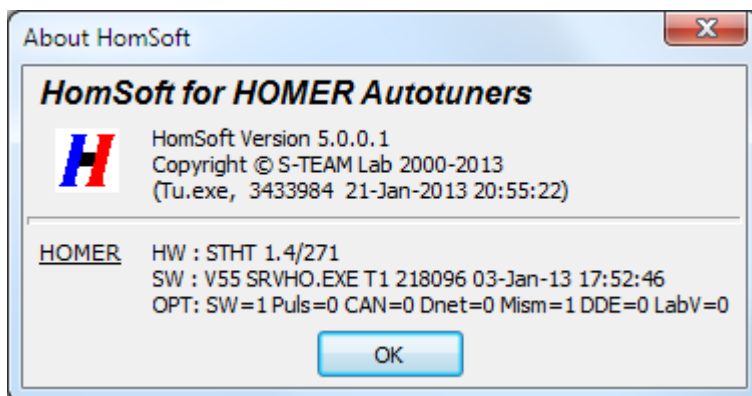

Figure 65. About window example.
5. Paste the clipboard to MyProblem file (see example in Figure 65).